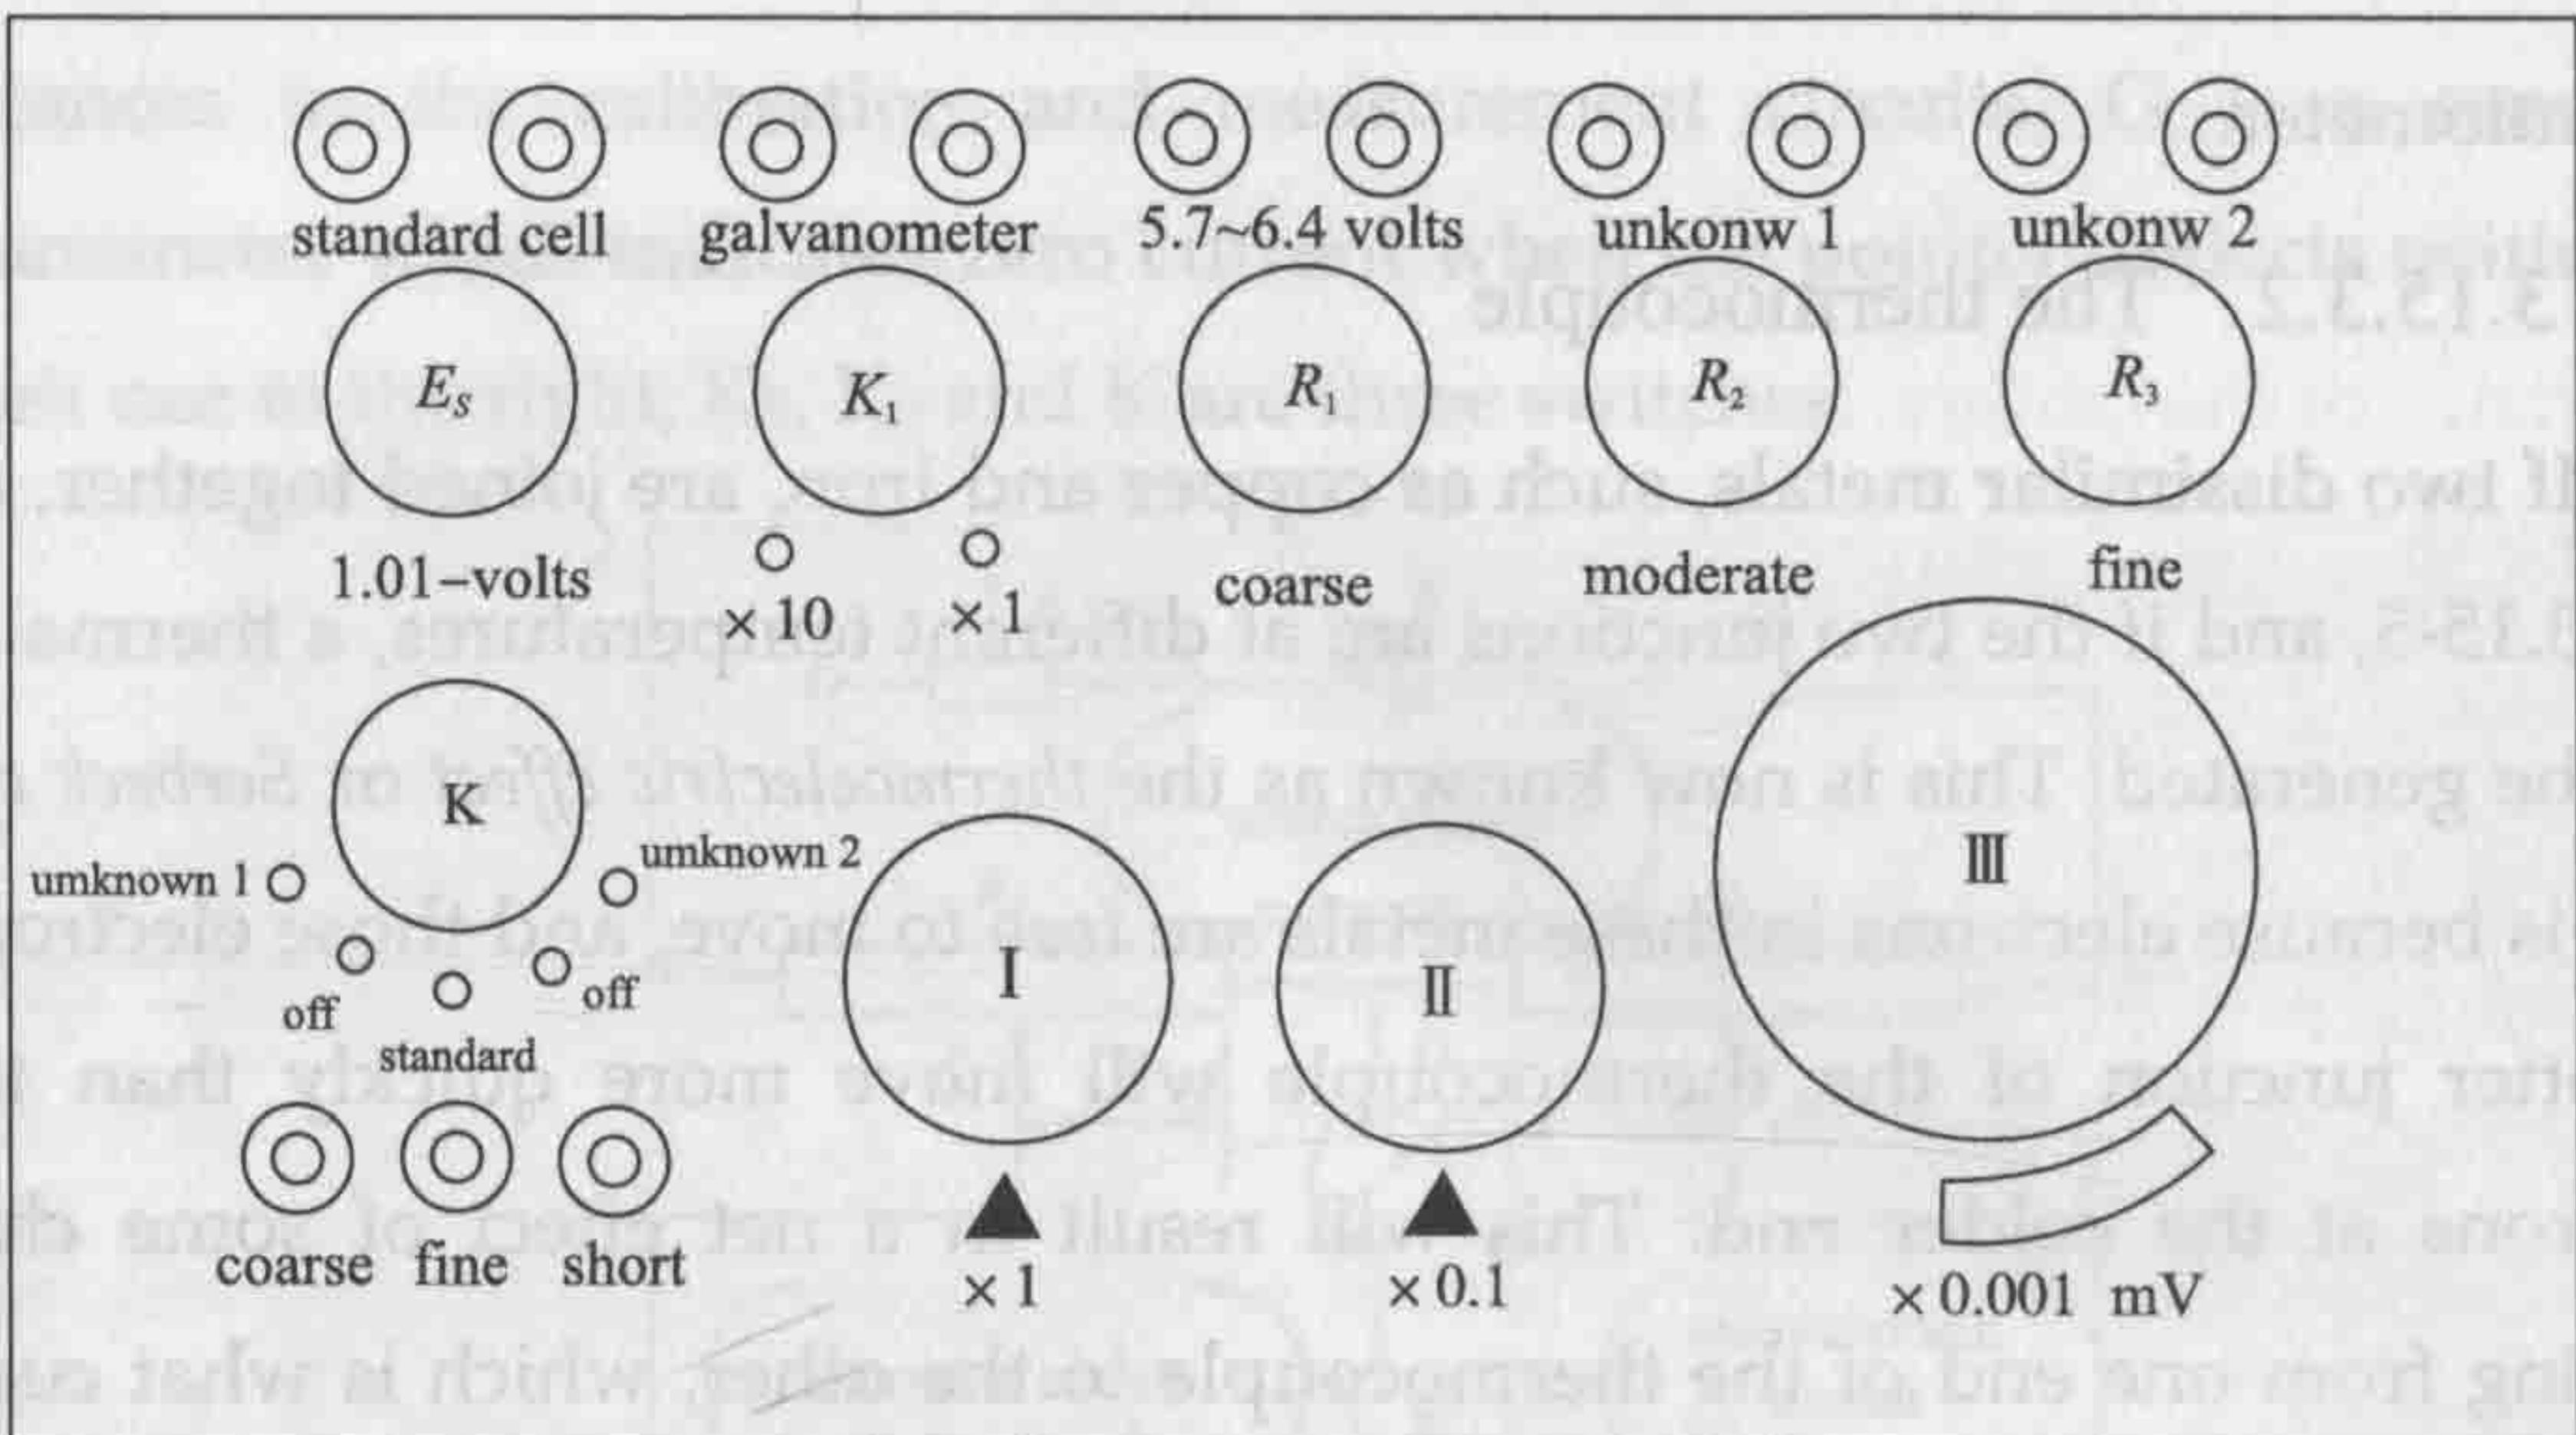

Fig. 3.15-6 Panel of the box potentiometer
Fig. 3.15-6 shows the panel of a box potentiometer. The knobs on the panel are introduced in Table 3.15-1.
(7) Tune  $E_s$  to set the value to  $1.0185\text{V}$ .
(8) Tune the stable power supply so that the output is in the range of  $5.7 \sim 6.4\text{ V}$ .
(9) Press in the “short” button to see if the galvanometer reads zero. If not, adjust it mechanically by a screwdriver. There are five sensitivity grades for the galvanometer. The greater the number, the more sensitive the galvanometer is. You can choose the sensitivity as high as possible but the pointer of the galvanometer should not oscillate when current goes through it.
(10) Rotate the switch  $K$  to “standard” and set grade “1” for the galvanometer. Push in the “coarse” knob at the lower left corner. If the galvanometer deflects far from zero, adjust  $R_1$  and  $R_2$  (see Fig. 3.15-6) until the galvanometer deflects little from zero. Rotate the “coarse” knob to lock it. Push in the “fine” knob and increase the sensitivity of the galvanometer. Tune  $R_3$  until the galvanometer reads zero. Choose the sensitivity as high as possible so that
(12) Turn the switch K to "unknown 1" or "unknown 2" to measure the unknown emf.
(13) Push in the "coarse" knob. If the galvanometer deflects far from zero, adjust knobs "I" and "II" (see Fig. 3.15-6) until the galvanometer deflects little from zero. Rotate the "coarse" knob to lock it. Push in the "fine" knob. Tune knob "III" until the galvanometer reads zero. Now, read the scales on the knobs "I", "II" and "III" and add them up. The result is the emf produced by the thermocouple at temperature of 35°C.
(14) Repeat Steps (6) through (13) to complete Data Table 3.15-1 for the temperatures given in the table.